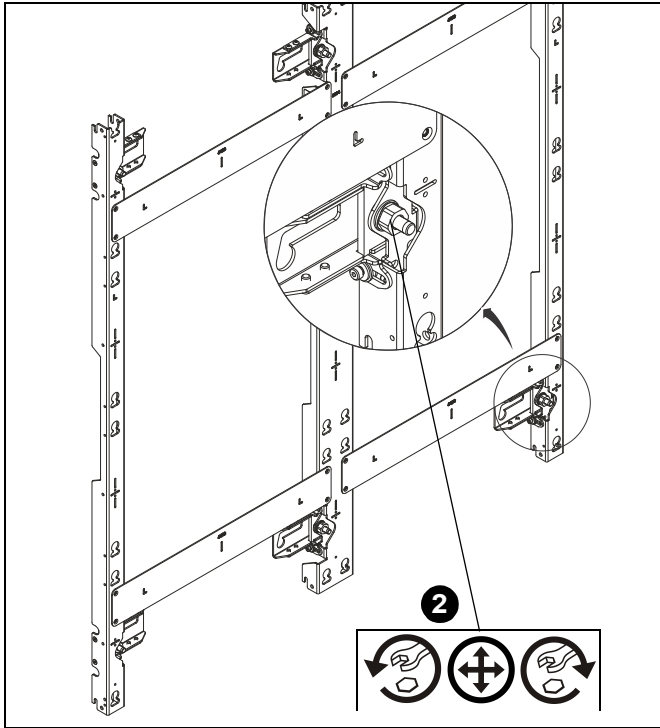

Figure 19
2. Turn 3/4" hex nuts near feet of mounting system to adjust depth as needed. (See Figure 19)